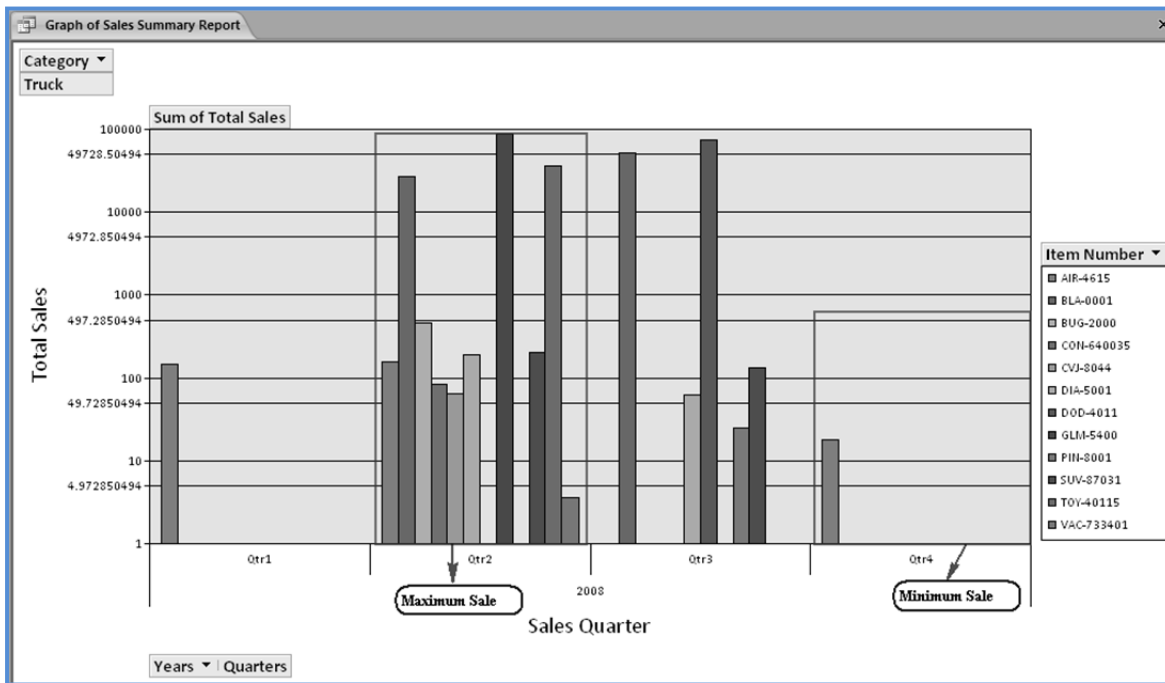

Fig. 1.2.73: Quarter-wise Truck Sales
5. In a similar manner, select *2011* from *Years* drop-down in horizontal axis. The resultant chart appears as in Fig. 1.2.73 indicating the sale of different items of *Truck* category, which is maximum in Quarter2 and minimum in Quarter4.